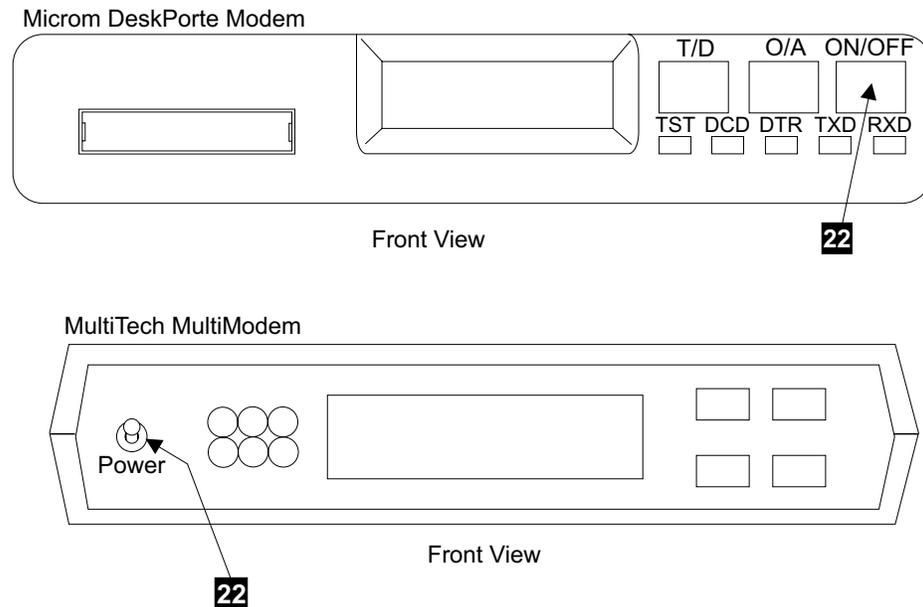

Figure 252. Modem Front Panel Locations (S008412I)
- ___ 21. Power on the modem. At the front of the modem press the ON/OFF switch, **22** [Figure 252]. The light in the switch comes on when the modem is powered on.